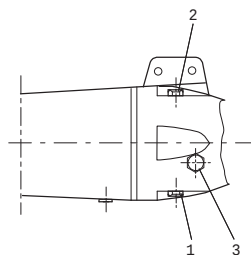

Fig. 33 Position of oil drain and oil filling screws
2. Slacken and remove screw (pos. 2 in fig. 33).
3. Slacken and remove oil drain screw (pos. 1), and allow the oil to drain from the chamber into a glass. Leave the oil in the glass for approx. 10 minutes, and check if it contains water. If the oil contains water, replace the shaft seal.